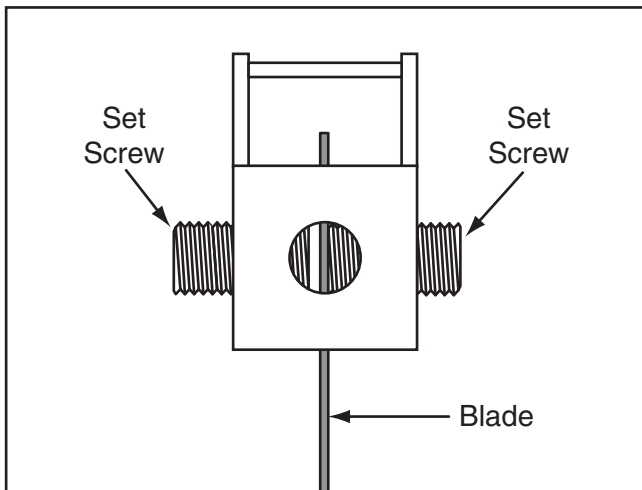

Figure 29. Plain end blade inserted and secured into a blade adapter.
3. Loosen the blade adapter set screws to allow the saw blade ends to slide through the adapters, as illustrated in **Figure 29**.
4. Thread one set screw in until it just makes contact with the blade. Keep the other set screw loose for now, as illustrated in **Figure 29**.